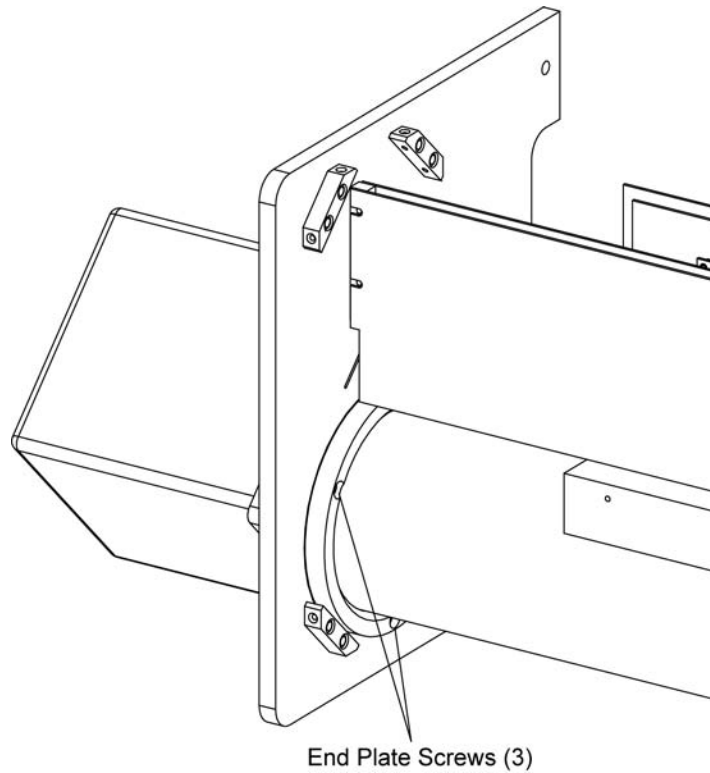

Figure 8-18
7. Remove the three screws attaching the PMT end plate to the outlet section of the Nephelometer (Figure 8-18).